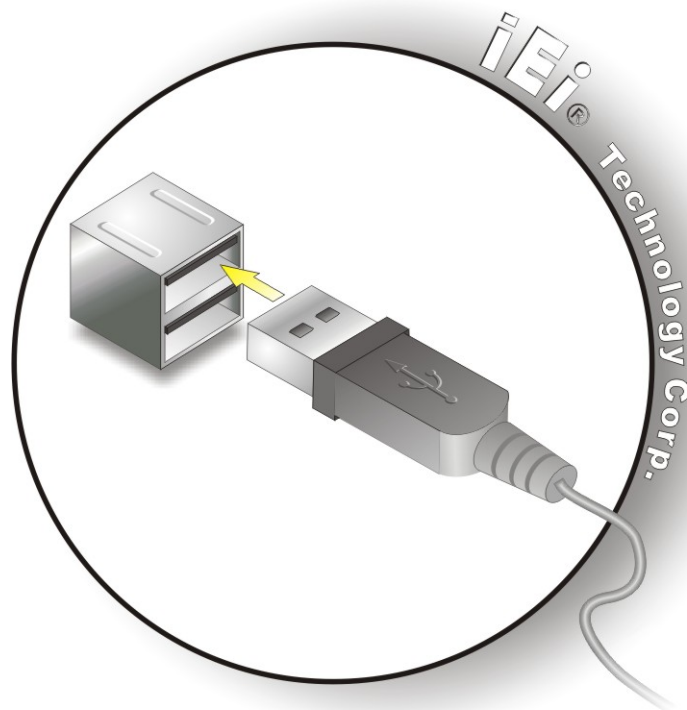

Figure 3-15: USB Device Connection
Step 2: **Align the connectors.** Align the USB device connector with one of the connectors. See **Figure 3-15**.